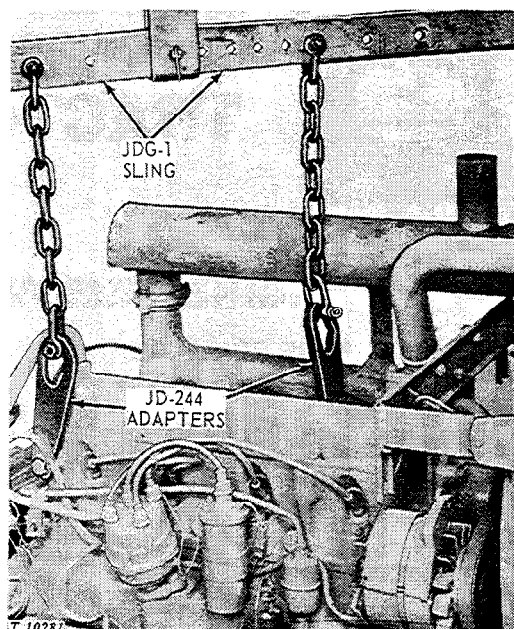

Fig. 20-5-5—Sling for Lifting Engine
15. Install two JD-244 adapter tools on engine cylinder head (Fig. 20-5-5).
16. Place JDG-1 sling on a hoist and attach sling to adapter tools as shown in Fig. 20-5-5.